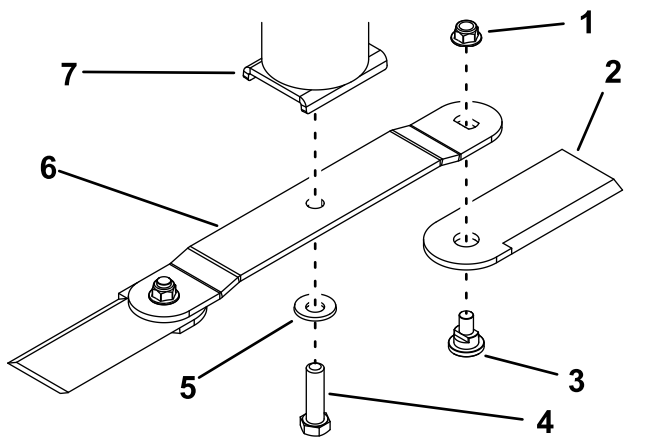

Figure 36
2. Remove the blade bolt, the curved washer, and blade from the blade mount on the bottom of the spindle-cup assembly (Figure 36).
If the blade is not balanced, file some metal off the back side of the blade (opposite of the cutting edge) only (Figure 36).
1. Attach the blade to the spindle cup assembly using the blade bolt and curved washer (Figure 36).
3. To install only the flail blades, secure the flails to the end of the blade using the flail bolt and a new nut for each flail (Figure 36). Torque the nut to 103 to 127 N·m (76 to 94 ft-lb).